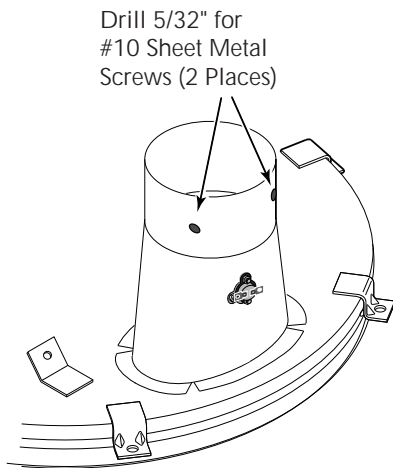

Figure 5: Drill Combustion Chamber Flue Collar as shown for sheet metal screws for Welded Vent Elbow Assembly.
12. Before applying any adhesive to the Metal Elbow or the Combustion Chamber Flue Collar, set the Elbow on the Flue Collar with the Elbow's detent mark aligned with the centerline of the Stack Flue Switch. Drill two 5/32" holes into the Combustion Chamber Flue Collar through the pre-drilled holes on opposite sides of the Elbow (Figure 5). These holes will take #10 sheet metal screws to mechanically lock the Elbow to the Combustion Chamber Flue Collar. Don't install the screws yet.
17. Install the Elbow; align the Elbow and push straight down on it; Compress the Combustion Chamber Flue Collar until the Elbow is completely bottomed out. The bottom of the Elbow should be 4-3/8" above the Flue Collar flange. The detent mark on the Elbow must align with the centerline of the Stack Flue Switch and the holes must align with the 5/32" holes drilled in the Flue Collar in Step 12 (see Figure 5).